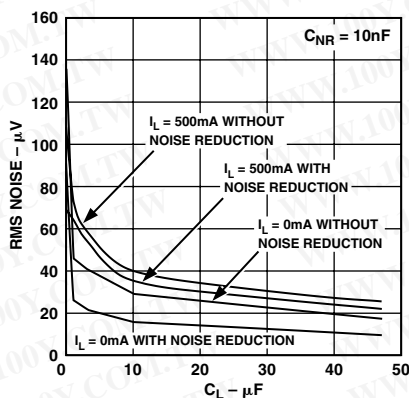

Figure 18. RMS Noise vs.  $C_L$  (10 Hz–100 kHz)
A noise reduction capacitor ( $C_{NR}$ ) can be used to further reduce the noise by 6 dB–10 dB (Figure 18) low leakage capacitors in 10 pF–500 pF range provide the best performance. Since the noise reduction pin (NR) is internally connected to a high impedance node, any connection to this node should be carefully done to avoid noise pickup from external sources. The pad connected to this pin should be as small as possible and long PC board traces are not recommended.